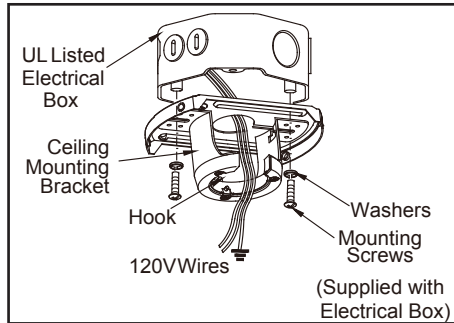

Figure 7
1. Pass the 120-volt supply wires through the center hole in the ceiling mounting plate as shown in Figure 7.
2. Install the ceiling mounting bracket on the electrical box by using the mounting screws provided with the electrical box. Note that the flat side of the mounting plate is toward the electrical box. (Figure 7)